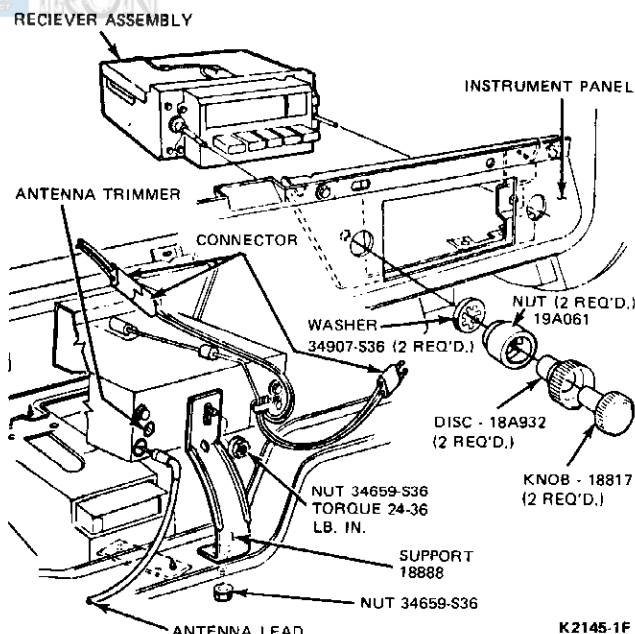

FIG. 2 Radio Installation—LTD II, Thunderbird and Cougar
3. Remove the radio rear support to instrument panel attaching nut. (Fig. 2).